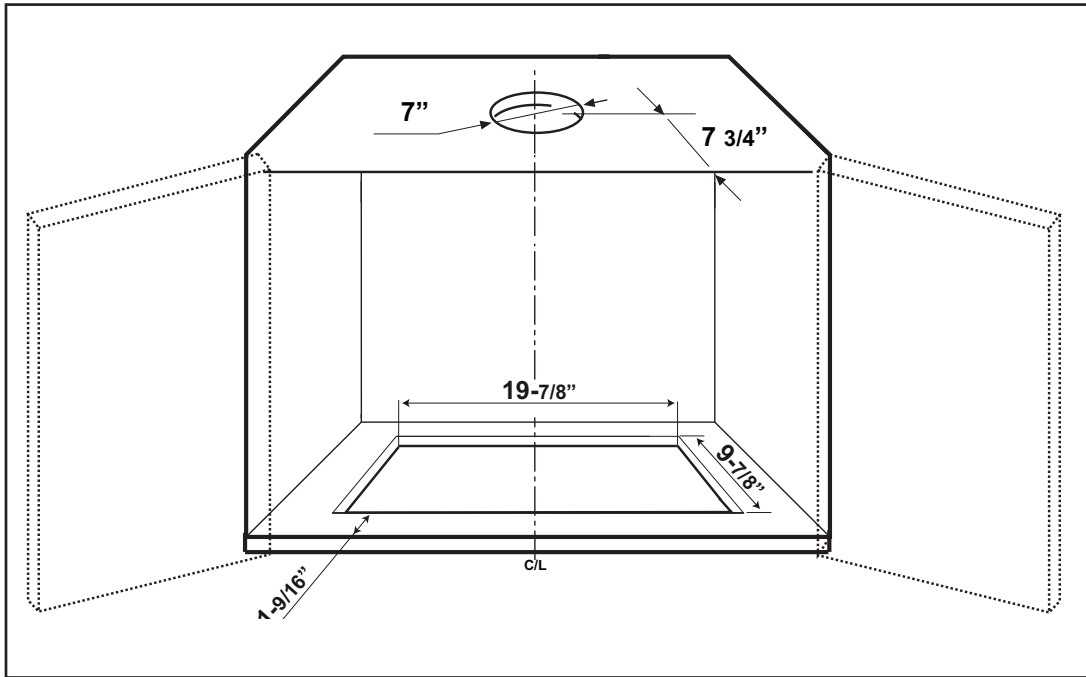
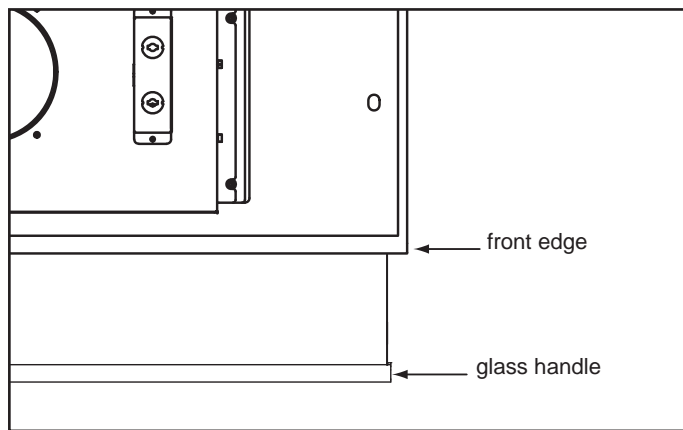
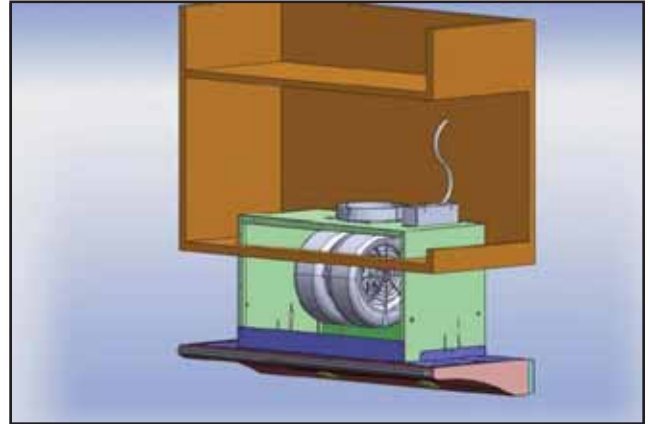

Fig.1
Fig.2
Fig.4
3. Follow the dimensions in Fig.1 and cut-out the bottom of your cabinet to create an opening for the hood to fit through. If you have a frameless cabinet begin the 1-9/16" measurement (*referenced in Fig.1*) from front of the cabinet door. This way the front edge of the hood will be flush with the cabinet doors when closed, see Fig.2.
3) Open cabinet doors. Lift range hood and slide it through the opening located in the bottom of the cabinet, Fig.4. Make sure opening matches the dimensions on page 9, Fig.1.